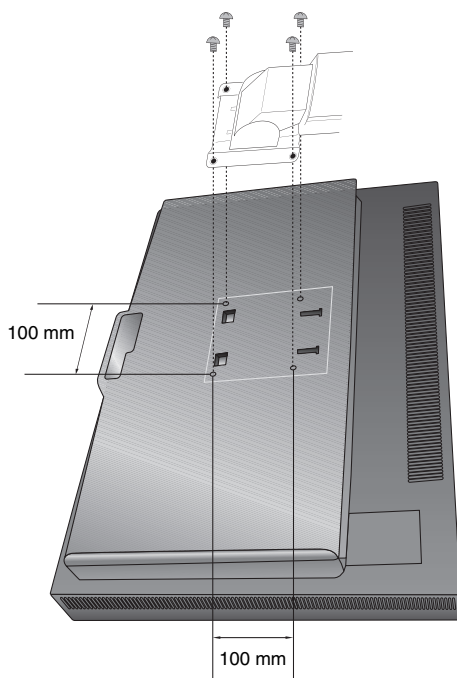

Figure S.1
3. Place monitor face down on a non-abrasive surface (**Figure S.1**).
4. Place one hand around the base and one hand on the Quick Release Lever. Push and hold the Quick Release Lever in the direction indicated by the arrows (**Figure S.1**).
5. Lift up the stand to unhook it from the monitor (**Figure S.1**). The monitor can now be mounted using an alternate method. Reverse the process to reattach stand.